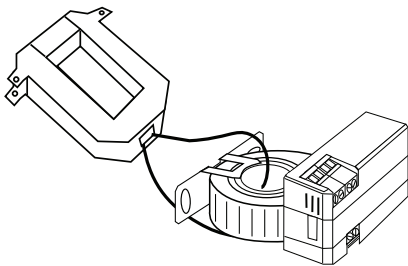

Figure 4: CSS with CT Transformer
Use a 5 A Current Transformer (CT) to reduce the current passing through the CSS as shown in Figure 4. Run the current transformer secondary wire through the sensing hole. Terminate the two secondary wires of the 5 A current transformer to each other, and then install the 5 A current transformer in the conductor being monitored.